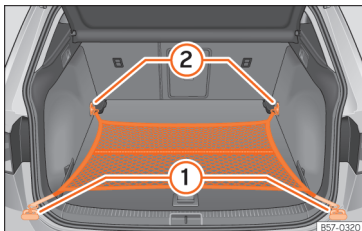

Fig. 133 In the luggage compartment: net bag hooked up at floor level.
- Secure the net hooks to the fastening rings ① and ② »» Fig. 133 »» ⚠. The bag zip should be facing upwards.